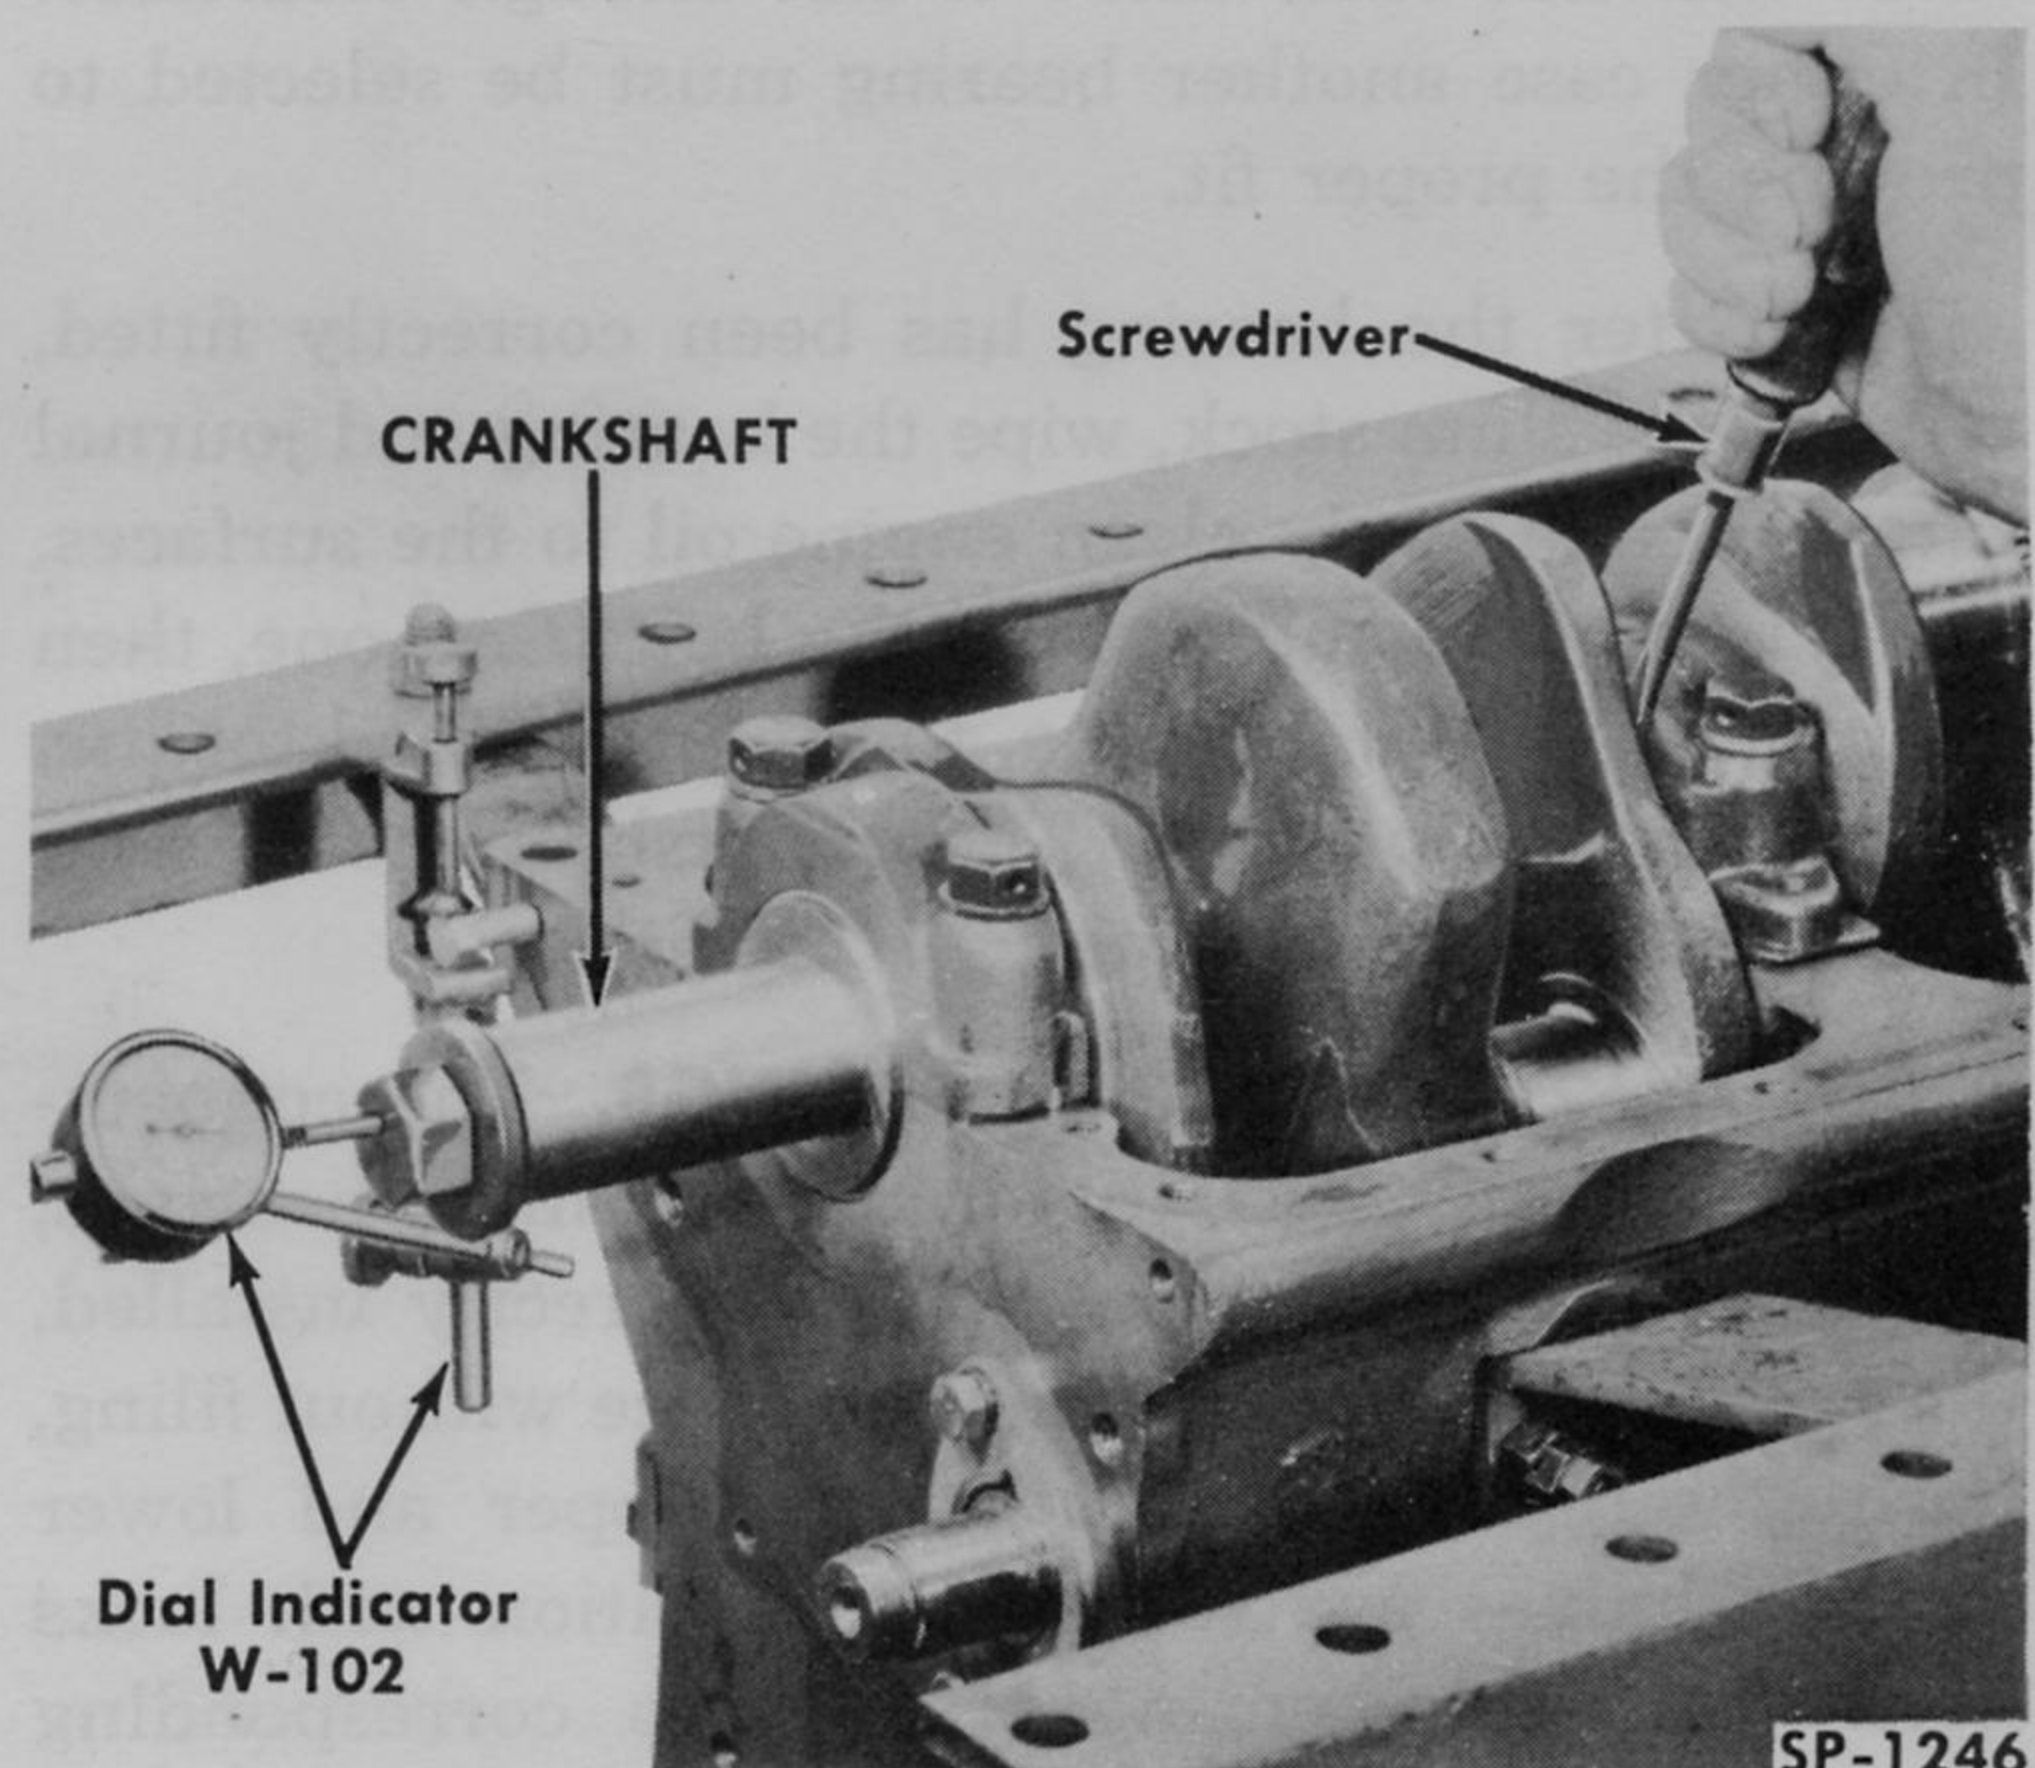

Fig. 60—Checking Crankshaft End-Play
1. Checking Crankshaft End-Play—Engine Out of Vehicle. Install the vibration damper bolt and washer. Mount a dial indicator on the front end of the engine with the indicator button against the front end of the vibration damper bolt (Fig. 60). Move the crankshaft endwise to the rear as far as possible and set the indicator dial at zero. Then move the crankshaft forward, prying with a screwdriver as shown. The indicator reading is the total amount of end-play. Remove the dial indicator, cap screw and washer.